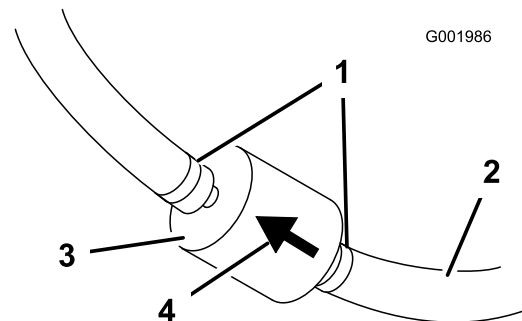

Figure 54
- Squeeze the ends of the hose clamps together and slide them away from the filter (Figure 54).